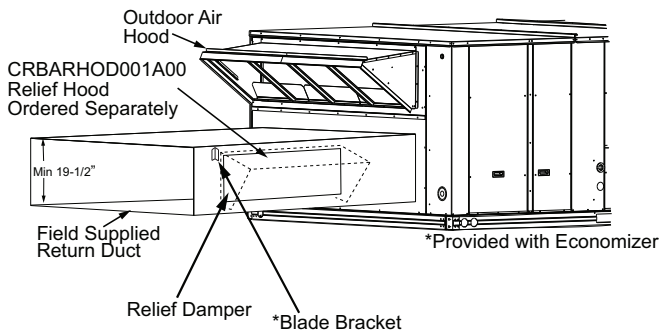

Fig. 21 — Installing CRBARHOD001A00 Over Relief Damper
4. Using the blade brackets, install the relief damper onto the side of the return duct (see Fig. 21). The two brackets and relief damper are provided with the economizer.
Caulk the backside of the mating flanges to ensure a watertight seal. Install the CRBARHOD001A00 over the relief damper and screw to the return duct, as illustrated in Fig. 21.